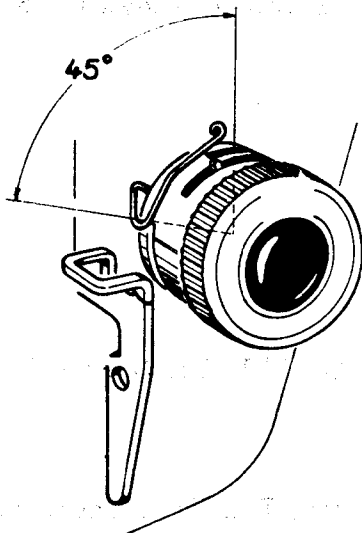

Fig. 48
2. To release gently the thread which, during the finishing phase of the stitch, was required for the stitch formation, and to permit the thread take-up lever to close the stitch without tearing the fabric. When released, the check spring must occupy the position as shown in Figure 48; and the loop of this spring must include an angle with the vertical center line of the tension adjusting knob, as indicated in this illustration.